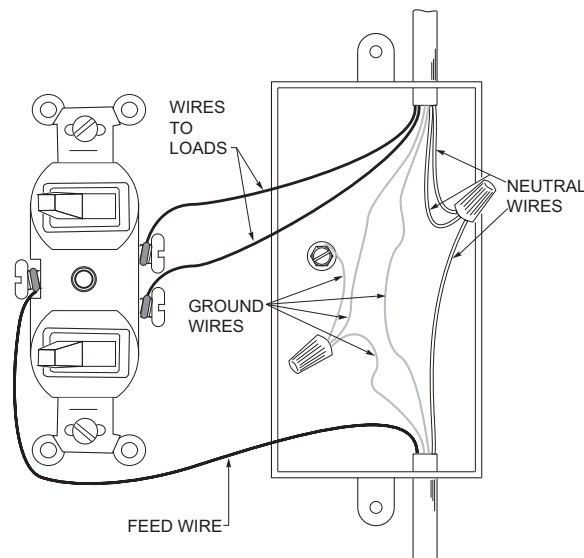

Fig. 2: Single-circuit wiring
- Single-circuit wiring (see Fig. 2):** Three wires are attached to the combination switch. The HOT feed wire bringing power into the box is connected to the side of the switch that has a connecting tab. The wires carrying power out to the loads are connected to the side of the switch that does not have a connecting tab. A neutral wire should be present in the wall box. A ground wire may also be present and connected to a ground terminal on the old switch.
If you are substituting two single pole switches, each single pole circuit should match the description in Fig. 2.